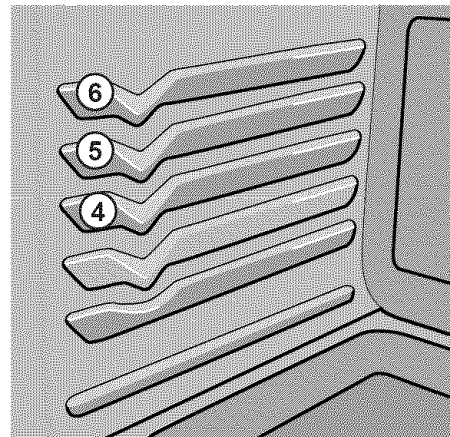

Fig. 2
2. Arrange the interior oven rack -*p. 23 Figs. 2 & 3-* for position recommendations. Be sure to place the prepared food and pan directly under broil burner. **Close the oven door.**